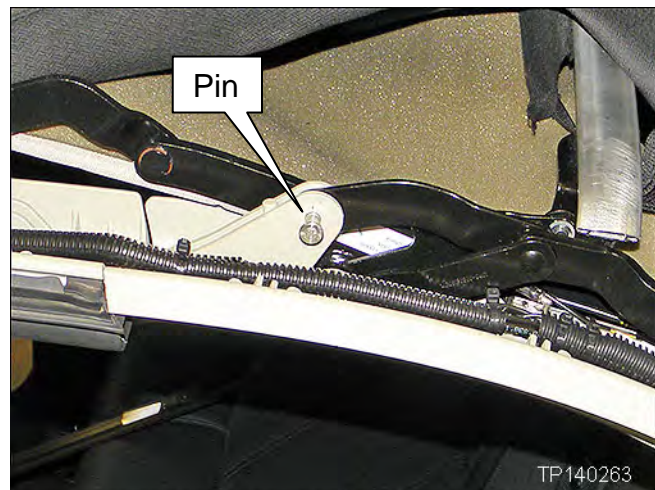

Figure 30
19. Remove the pin shown in Figure 30.